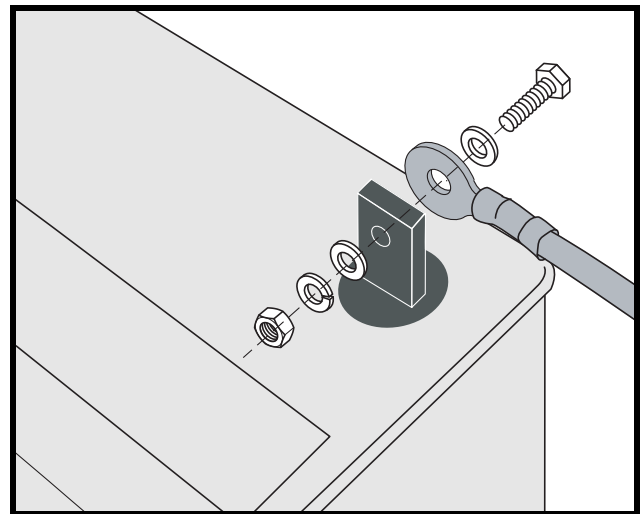

Figure 13. Battery Removal/Installation
4. Disconnect the battery cables from the battery terminals by sliding back the terminal boots and unscrewing the nut from the bolt. See figure 13.